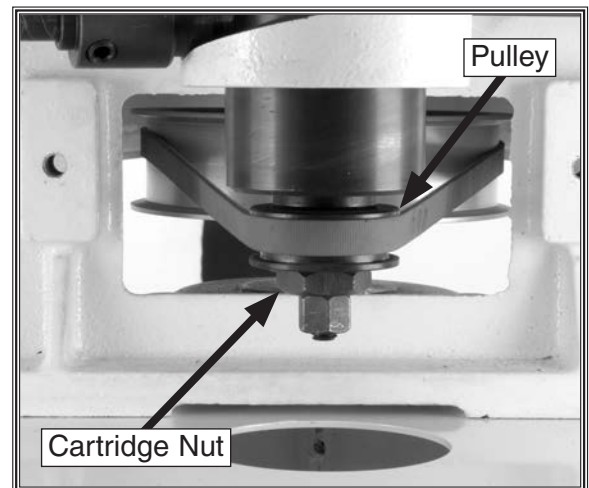

Figure 46. Location of cartridge nut and pulley.
6. Remove the cartridge nut on the bottom of the spindle, as shown in **Figure 46**, and slide the pulley off.